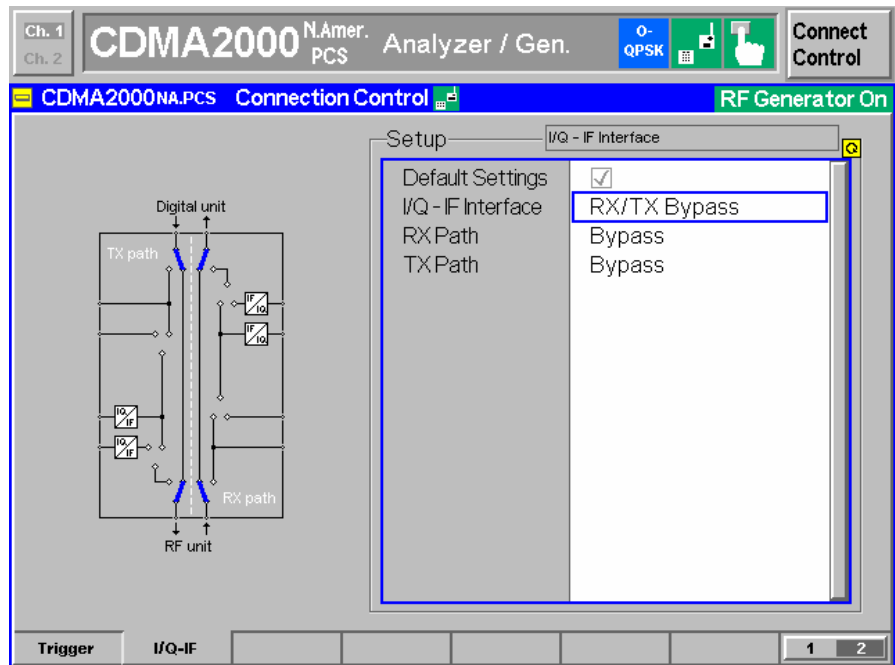
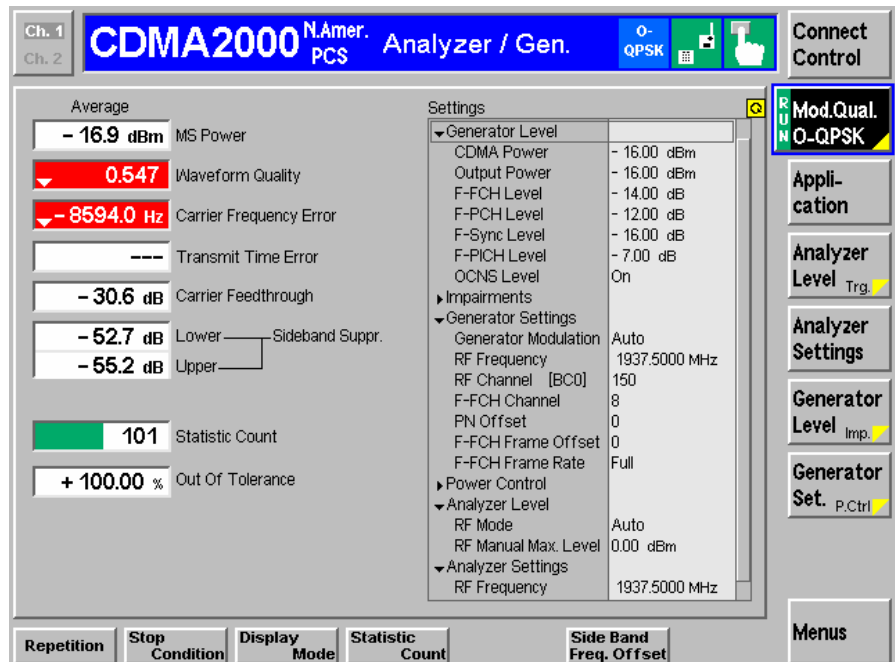
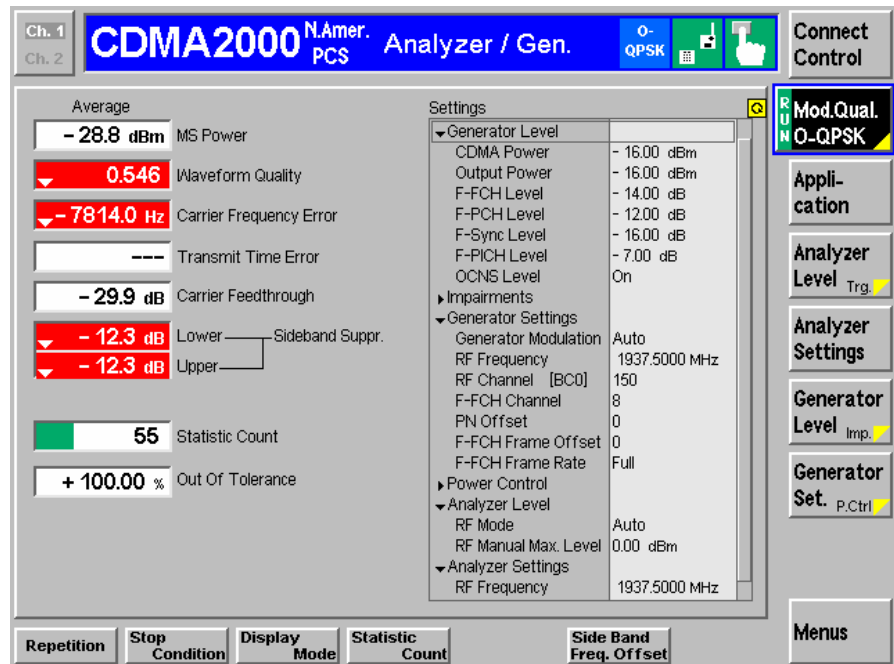

Fig. 16 IQ/IF Bypass Configuration
Fig. 17 Power in Bypass Mode
Fig. 19 Power with Calibration Mode Standard Fading
- Set the IQ/IF board to Bypass mode (Fig. 16) in order to obtain the reference Average Burst Power **PREF** (Fig. 17).
6. The resulting Average MS Power P_{MEAS} (Fig. 19) must be subtracted from the reference power P_{REF} (Fig. 17) to obtain the hardware loss (HWLoss) of the IQ path.